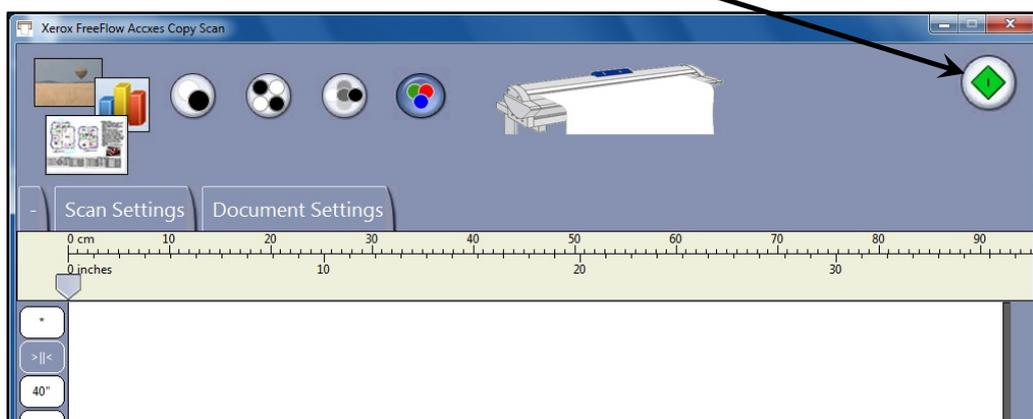

Fig 3-13
5. The Accxes Copy Scan Interface will appear (Fig 3-13 – This interface is explained in more detail in the section entitled, **Accxes Copy Scan Interface** in this chapter). By default it will be configured for colour and 300dpi. Resolution can be changed if desired but 300dpi is the recommended setting for the calibration.